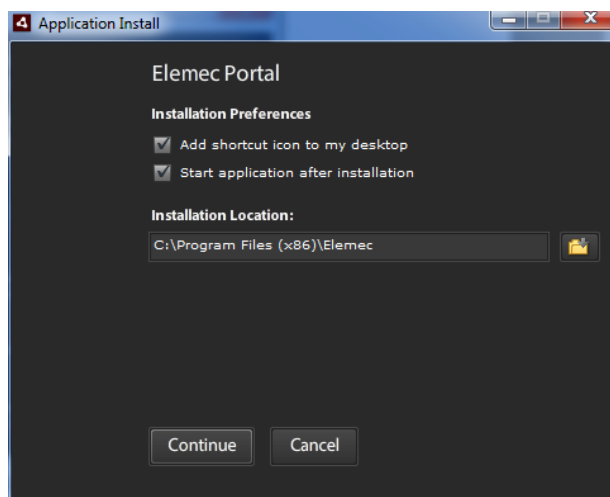

Figure 2. Installation Preferences
4. Use the check boxes (see Figure 2) to select the INSTALLATION PREFERENCES, then click the CONTINUE button. Keep the default installation location or change it, if necessary.